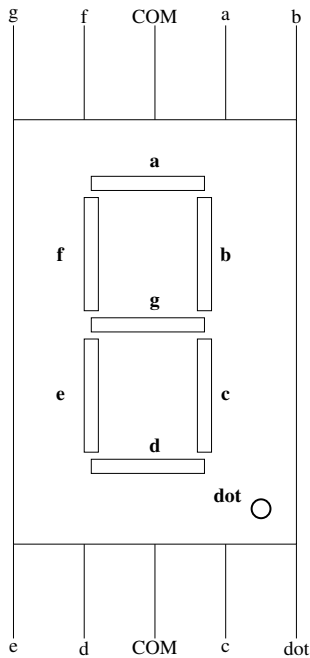

Fig. 1
- 1) Make pin connections from the Icoboard to the seven segment display in Fig. 1 according to Table III.